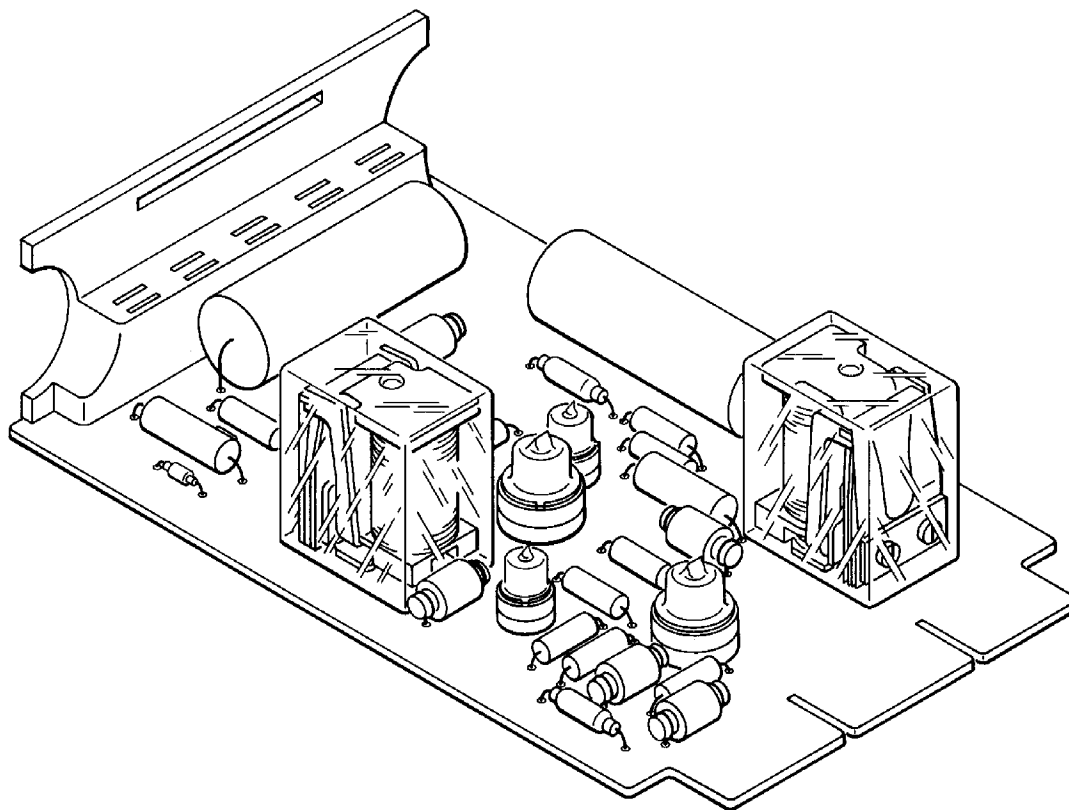

Fig. 1—406A Key Telephone Unit
1.01 The 406A and 408A key telephone units (Fig. 1 and 2) used together provide supplementary hold visual signaling in 1A1 and 1A2 key telephone systems. The units produce a lamp-flutter indication at a station set to signify a special hold condition, in addition to the normal lamp-wink or steady visual signal associated with the regular hold.